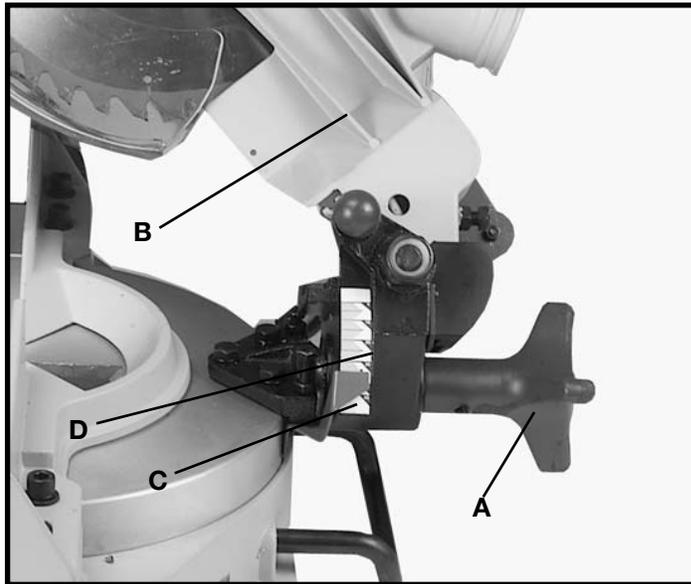

Fig. 18
The cuttinghead of your compound miter saw can be tilted to cut any bevel angle from a 90 degree straight cut off to a 45 degree left bevel angle by loosening bevel lock handle (A) Fig. 18, tilting cutting arm (B) to the desired angle and tightening lock handle (A).
Positive stops are provided to rapidly position the saw blade at 90 and 45 degrees to the table. Refer to the section of this manual titled **“ADJUSTING 90 AND 45 DEGREE BEVEL STOPS.”** The bevel angle of the cutting arm is determined by the position of the pointer (C) Fig. 18, on the scale (D).